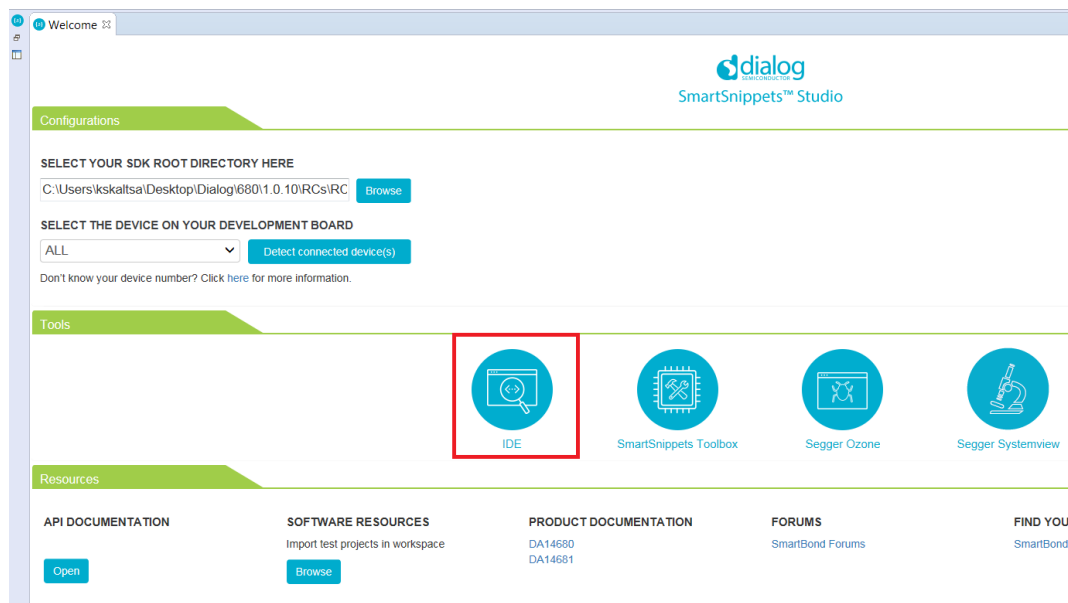

Figure 34: SmartSnippets™ Studio welcome page
1. In the **SmartSnippets™ Studio** welcome page click on the IDE icon from the Tools tab as shown in Figure 34.